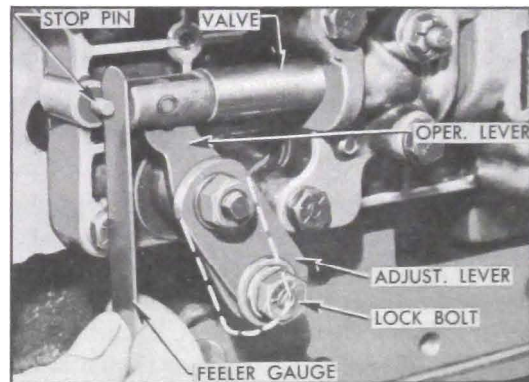

Figure 5-102—Control Valve Linkage Adjustments
linkage, then check clearance between stop pin and end of valve, using feeler gauge. Clearance should be .030" to .040". See figure 5-102.
10. If clearance is not correct, loosen lock bolt and shift the adjusting lever on the valve lower operating lever as required to obtain specified clearance. Tighten bolt and nut on levers, making sure that adjustment does not change. See figure 5-102.